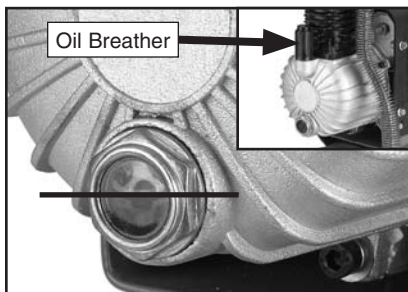

Figure 3. Proper oil level.
3. Add compressor oil, or ISO 100/SAE 30W non-detergent oil, to the crankcase. Remove the oil breather (inset in **Figure 3**) on top of the crankcase and add oil into the hole. The oil level should be in the center of the sight glass as shown in **Figure 3** (This step does not apply to the Model G0468).